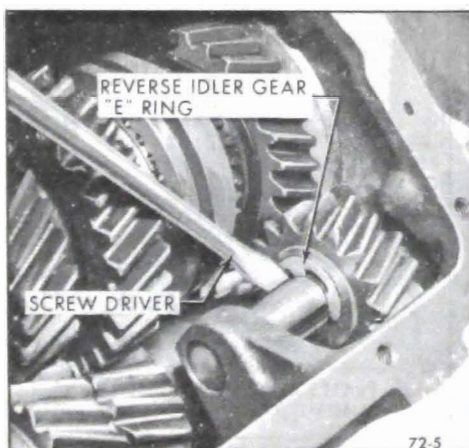

Figure 72-5-Removing Reverse Idler "E" Ring
6. Remove reverse idler shaft to gear "E" ring. See Figure 72-5.